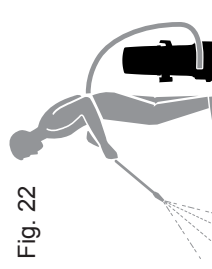

Fig. 22
2. Turn the On/Off switch (3) to "I".
3. Hold the spray gun (16) with both hands.
4. Direct the nozzle of the chosen attachment away from yourself towards the surface to be cleaned (Fig. 22).